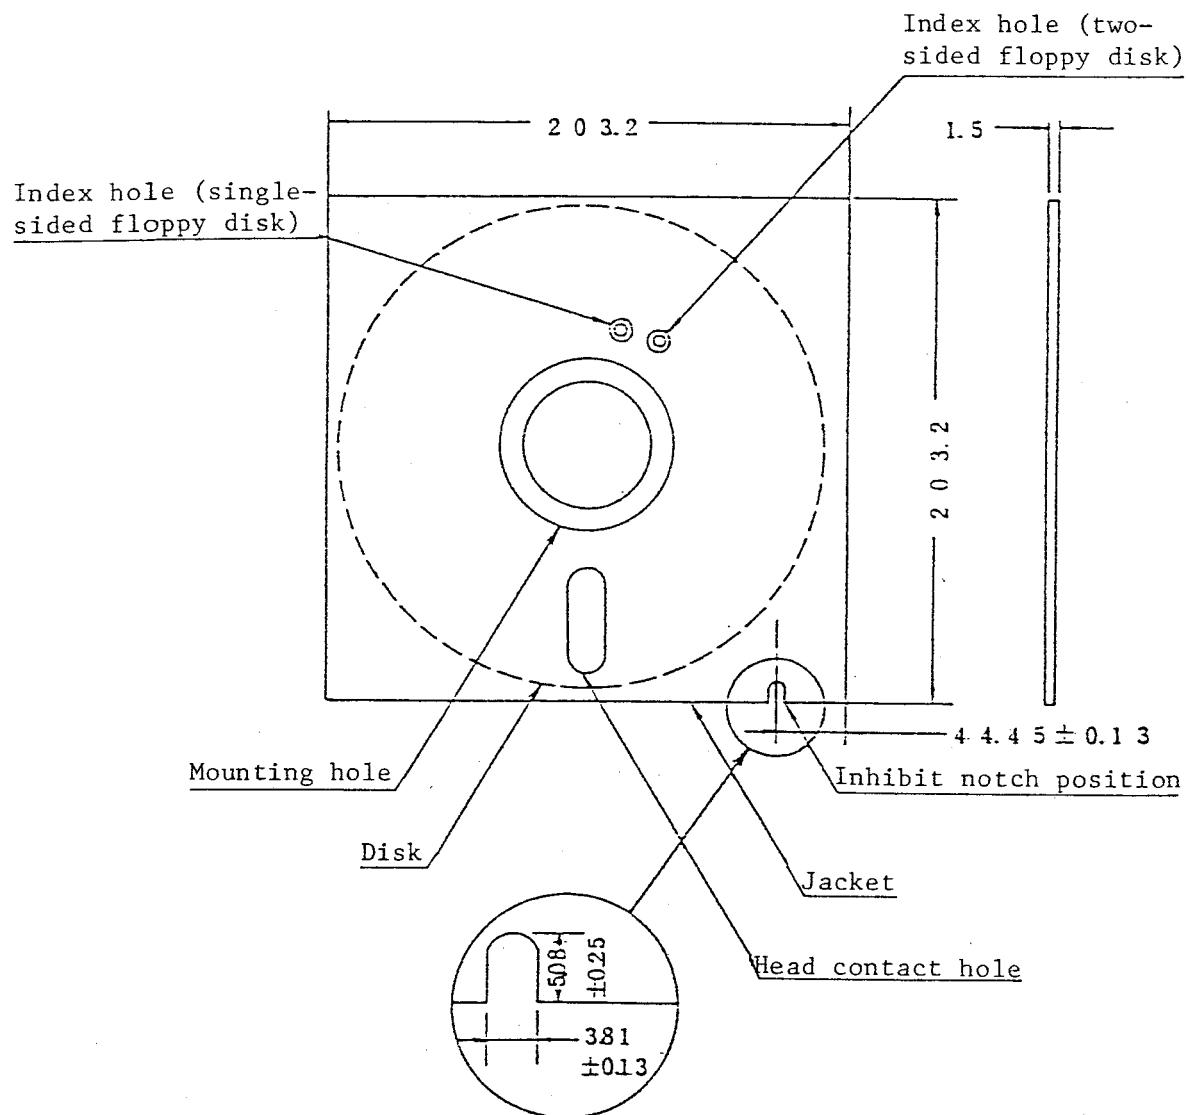

Fig. 2.5 Recording Medium
(1) As shown in Fig. 2.5, the recording media for the FDD is floppy disk composed of flexible, oxide-coated mylar sheet, housed in a dedicated jacket.
(2) IBM's floppy disks (IBM DISKETTE I, II, IID) are the standard recording media.
(3) To use the file protection feature requires an inhibit notch, the specifications of which are shown in Fig. 2.5.